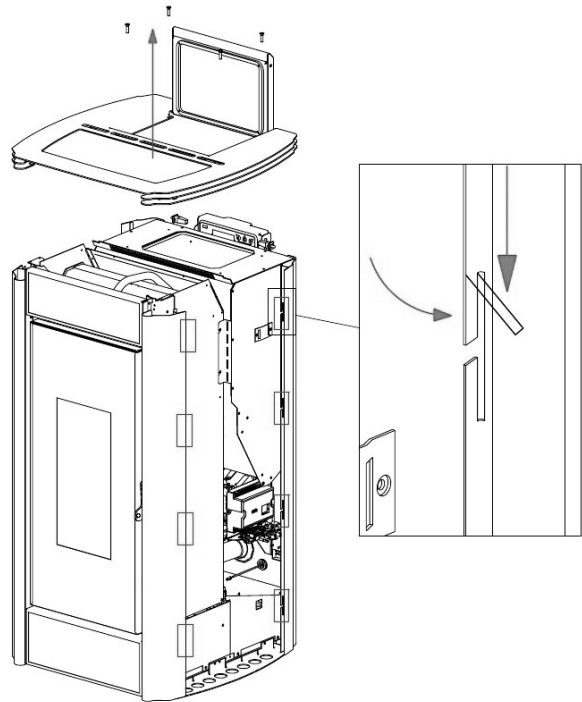

Fig. 35 - Fold flaps
- With your finger, fold the upper flaps which are located on the black profiles outwards (see **Fig. 35**).